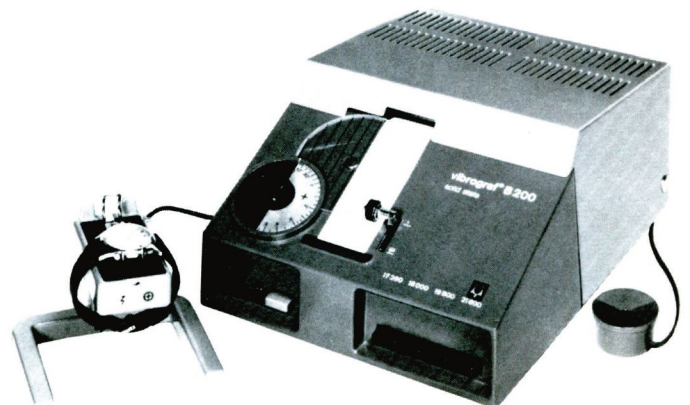

Fig. 17
1. Check the rate of the watch with an Accutron Rate Recorder, B 100A-B 200A (Vibrograf) (fig. 17) before opening the case. Compare the result with the customer's report making sure that there is no discrepancy. (Gains instead of losing or vice versa).